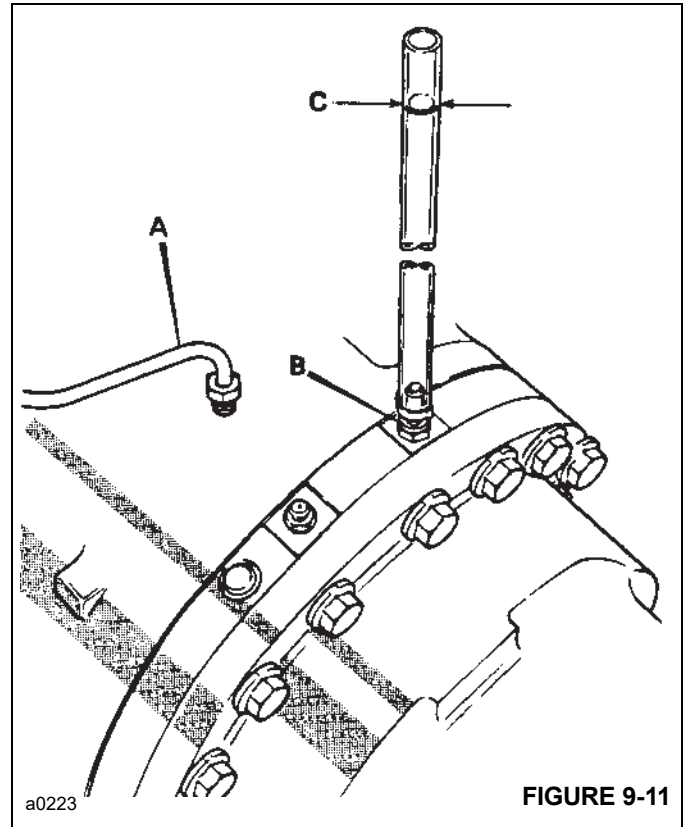

FIGURE 9-11
- a. Install an adapter fitted with a piece of clear tube (approximately 120 mm (4.75 in) long) to the brake piston port **B** Figure 9-11.